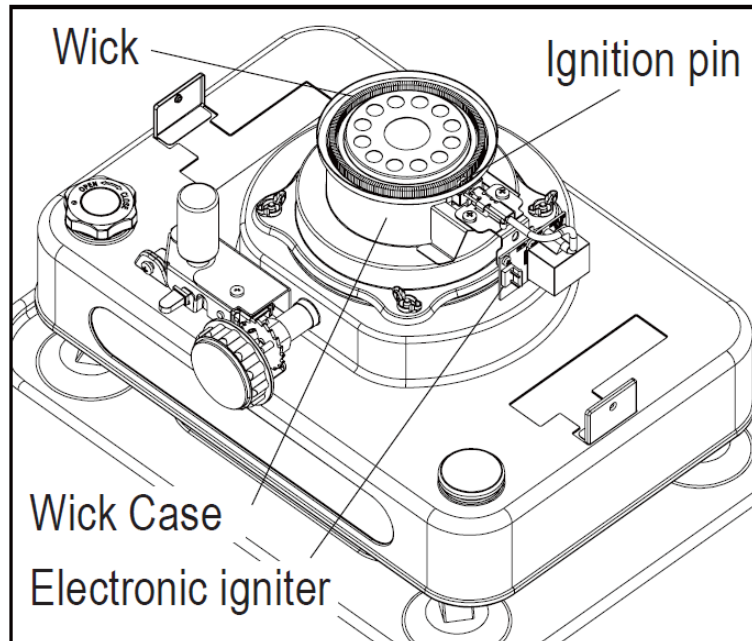

Figure 4.
3. Do not use hand or hold conducting objects to touch the ignition pin electrode while ignition (Fig.4), or you will be burned and get an electric shock risk.